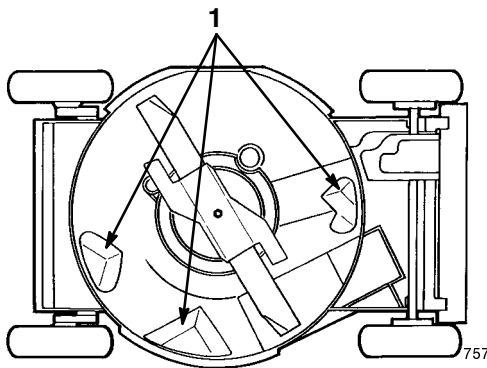

Figure 18
To ensure the best performance, keep the underside of the lawn mower housing clean. Be especially careful to keep the kickers free of debris (Fig. 18).
3. Tip the lawn mower onto its **right** side (Fig. 18).